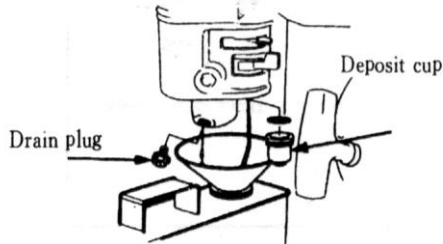

Fig. 32
1. Replace engine oil (Fig.32).